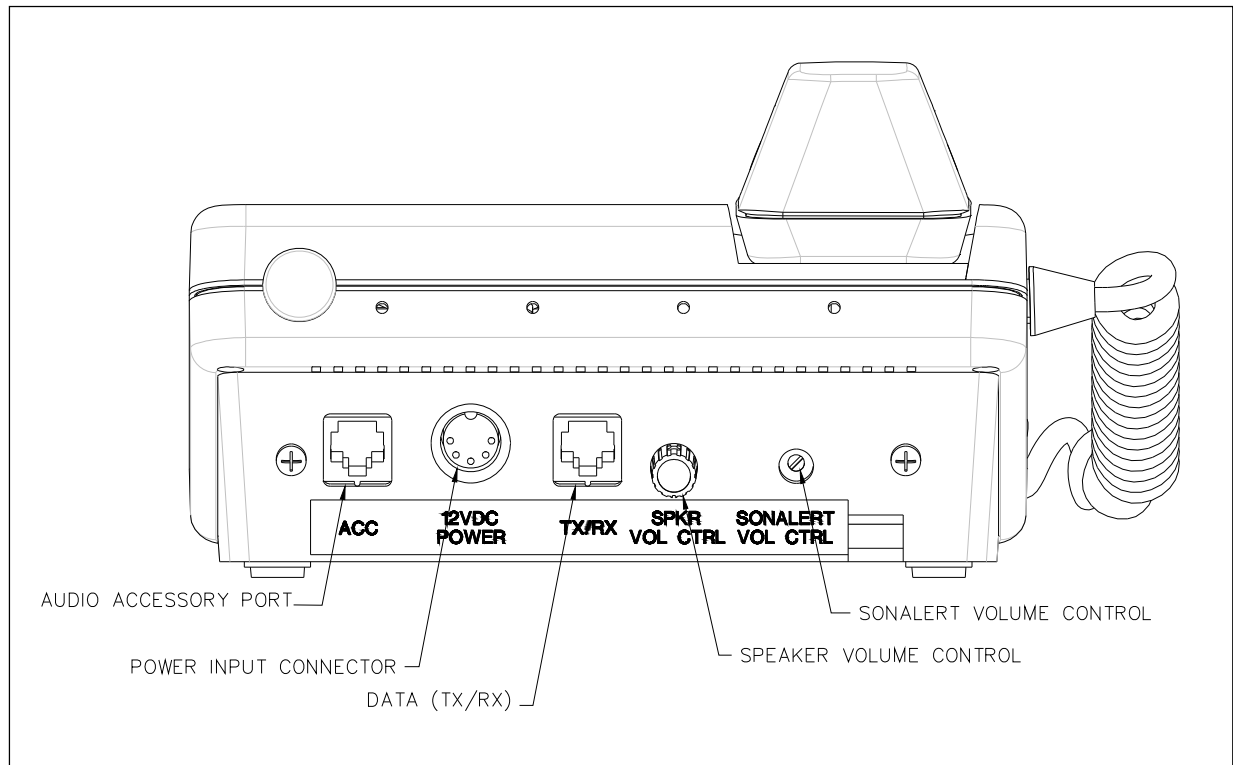
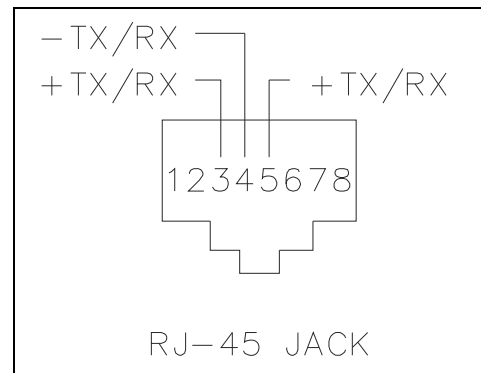

Figure 3. Access Panel Rear View
Figure 4. Data Connection Detail
Connect the data line from the access panel to the ADVANCE System control cabinet to the eight-pin data port (RJ45 jack) on the rear of the unit (see Figure 3 and Figure 4).
1. Plug the power cord into the power connector on the rear of the unit (see Figure 3).